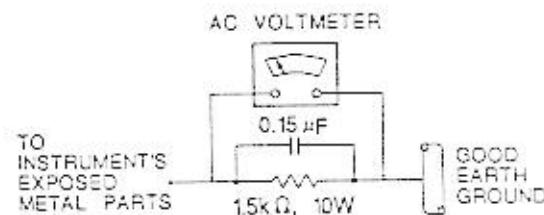

Figure. 1
- 5.2 Connect a 1500 ohm, 10 watt resistor, paralleled a 0.15 μ F capacitor between each exposed metallic part and a good earth ground (as shown in Fig 1).